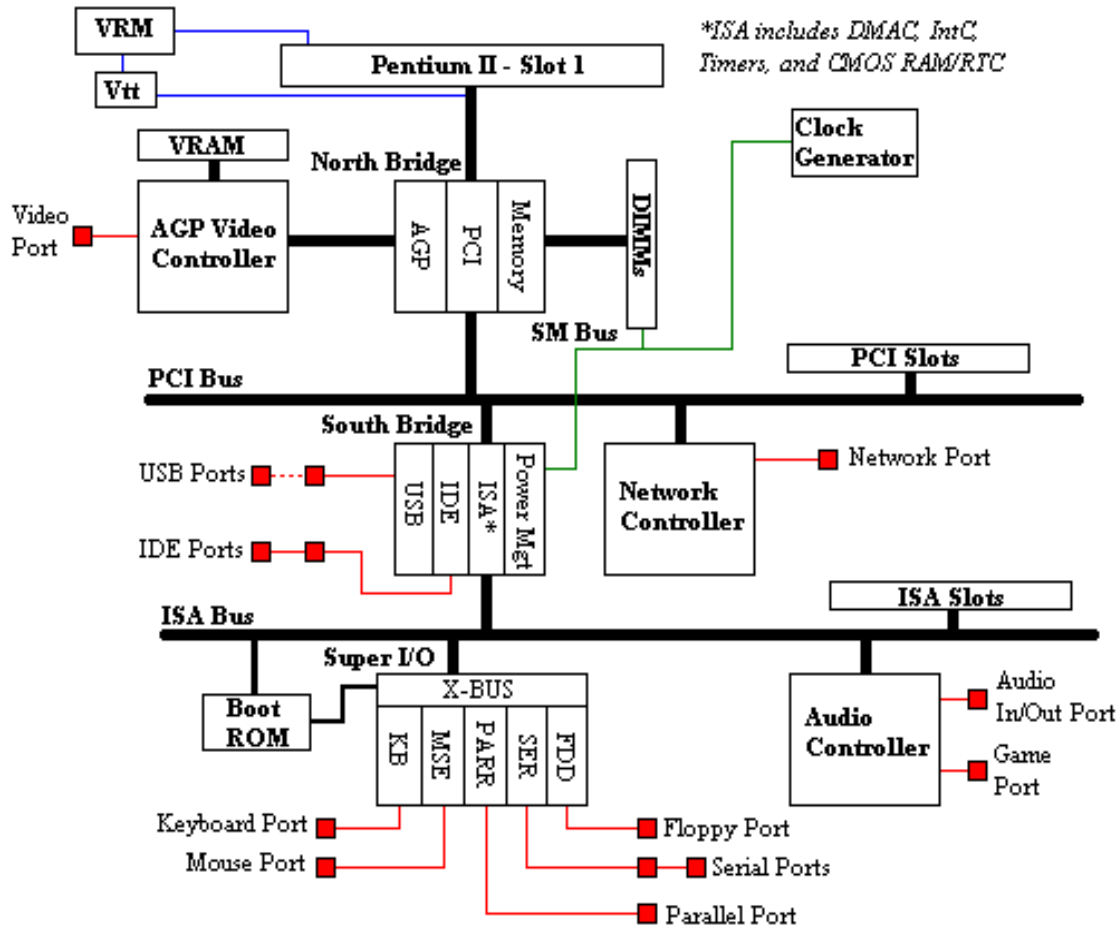

Fig. 2: Example Board Architecture
- 1 Understand the board structure. That is, divide the board into functional blocks, and create a hierarchical block diagram of the board structure, similar to the one shown in Fig. 2 (as an example this shows the familiar PC architecture, but the same principles apply to any board architecture).
Using available board documentation divide the board into functional blocks, and draw a block diagram of the board structure, similar to the one shown in Fig. 2.